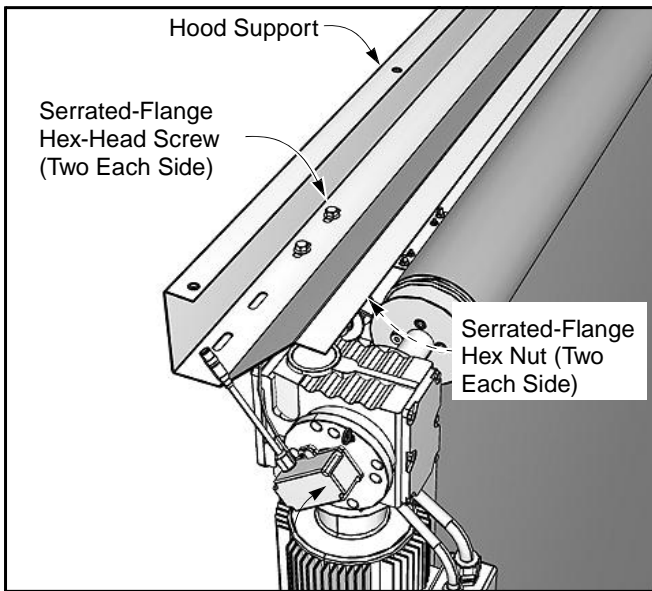

Figure 42
1. Attach the hood support assembly to the top of the side columns using two  $\frac{3}{8}$ -16 x 1-in. serrated-flange hex screws and nuts on each end. (See Figure 42.)